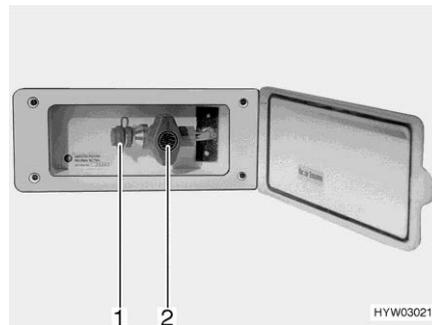

Fig. 89 External gas connection
- Connect the external gas device to the connection point (Fig. 89,1).
- Open the gas isolator tap (Fig. 89,2).